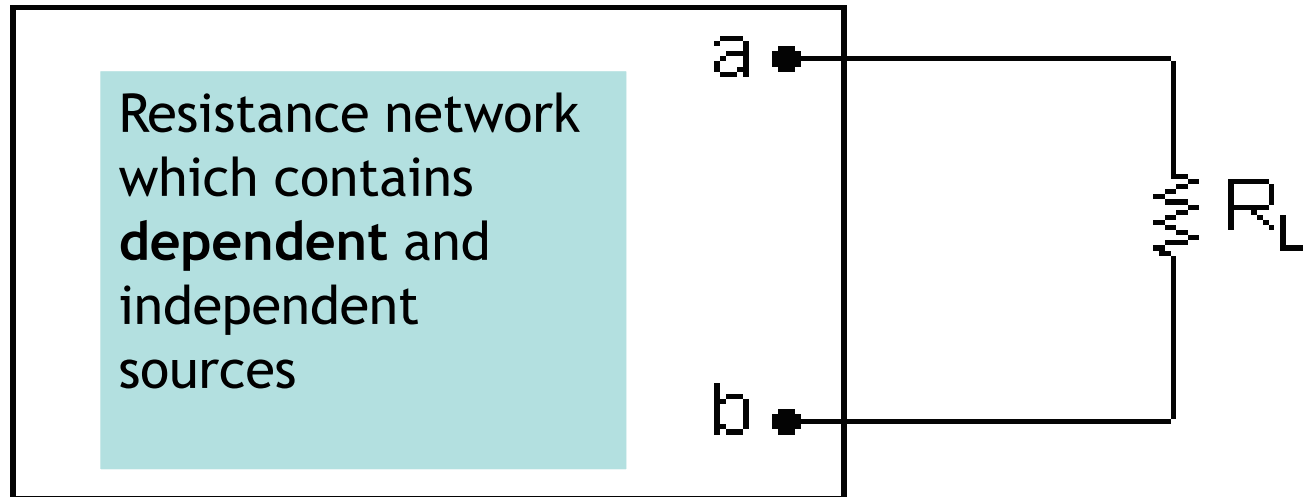

Figure 10
- Maximum power transfer can be illustrated by Figure 10. Assume that a resistance network contains independent and dependent sources, and terminals a and b to which the resistance R_L is connected. Then determine the value of R_L that allows the delivery of maximum power to the load resistor.